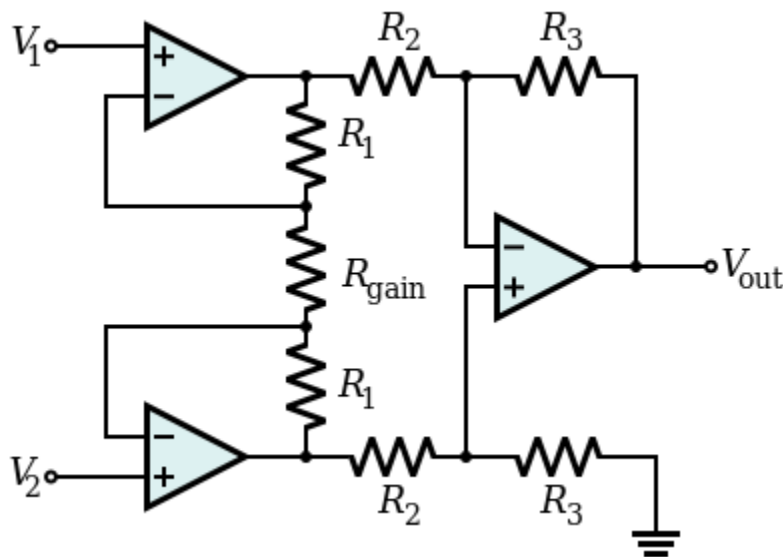

Fig. 1 Instrumentation amplifier
The most commonly used instrumentation amplifier circuit is shown in Fig. 1. The gain of the circuit is
1. Construct the circuit of the instrumentation amplifier shown in Fig. 1.